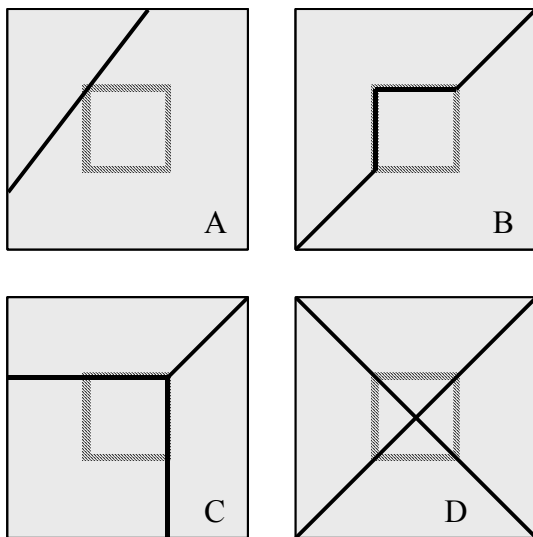

Figure 5. Yield line patterns of problem 2a
- a We consider the yield line patterns of Figure 5. Which of these patterns give kinematically possible mechanisms (1 point).